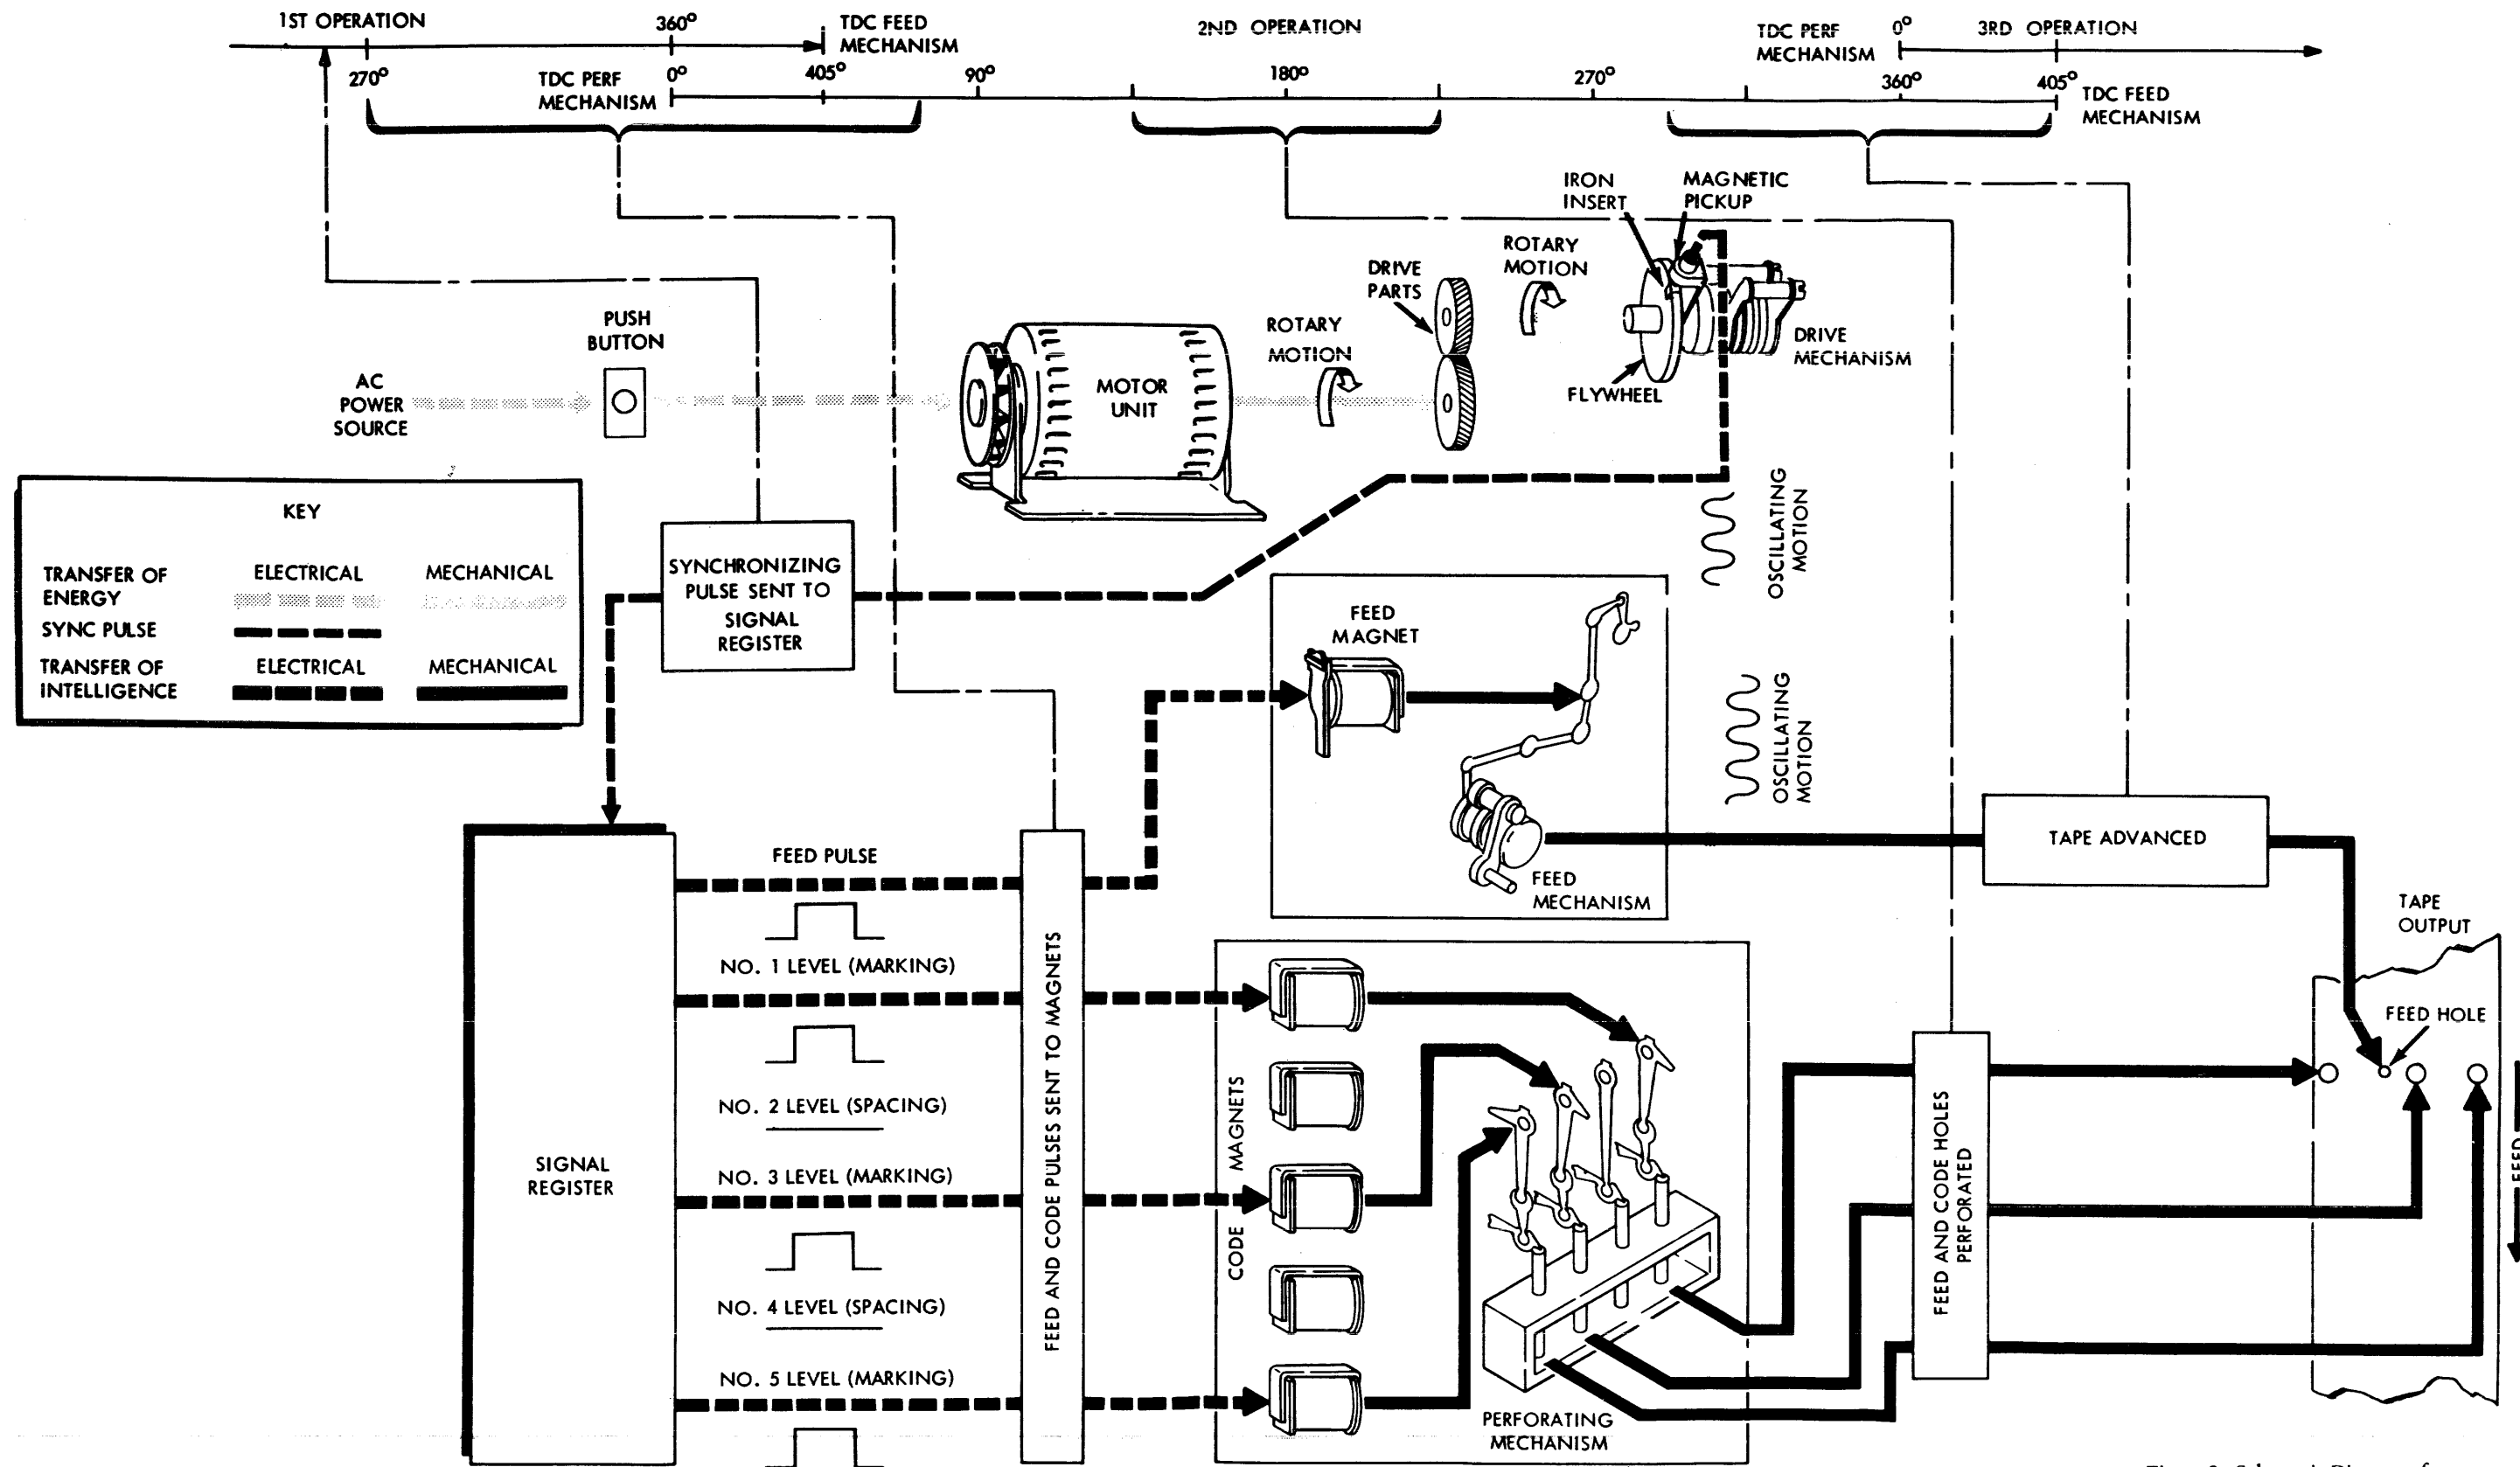

Figure 3 - Schematic Diagram of Reperforator Description
3.01 Figure 3 shows the related operations of a tape punch unit receiving a 5-level code with levels 1, 3, and 5 marking. The electrical, mechanical, and timing relationships shown are described in the following paragraphs.